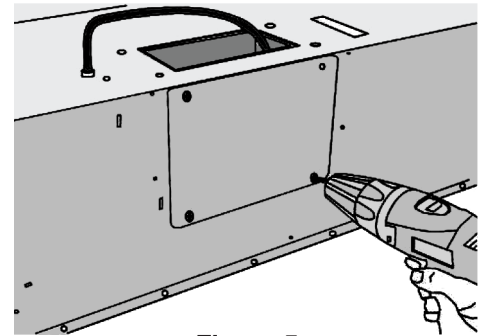

Figure 5
- Remove the back plate by removing the 4 screws (see Figure 5).